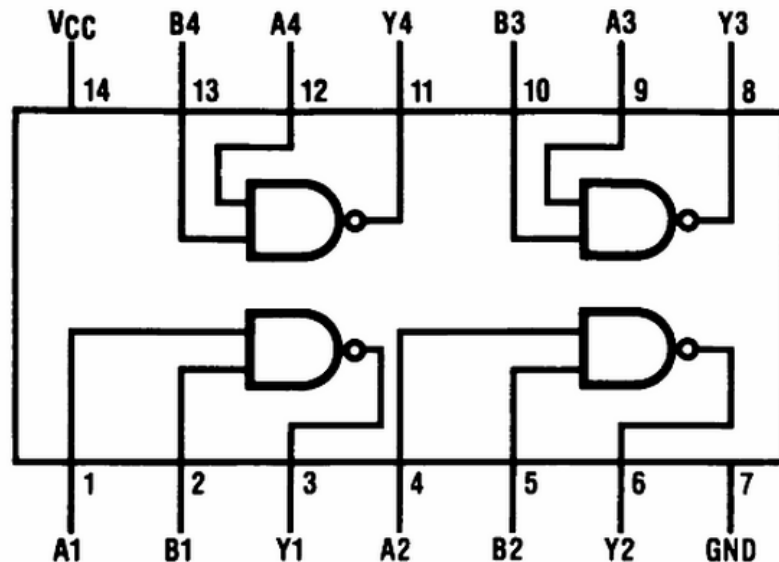

Fig. 6: The pin diagram of 74HC00 IC
- 1) Fig. 6 shows the pin diagram of 74HC00 IC (2-input CMOS NAND). Insert 74HC00 IC into your breadboard. Connect pin 14 to 5 V and pin 7 to ground. Leave the other pins unconnected and measure the voltages on pins 1,2,3,4,5,6,8,9,10,11,12, and 13. Comment on the results. Is it a good idea to leave the **unused pins unconnected** in CMOS NAND gates?